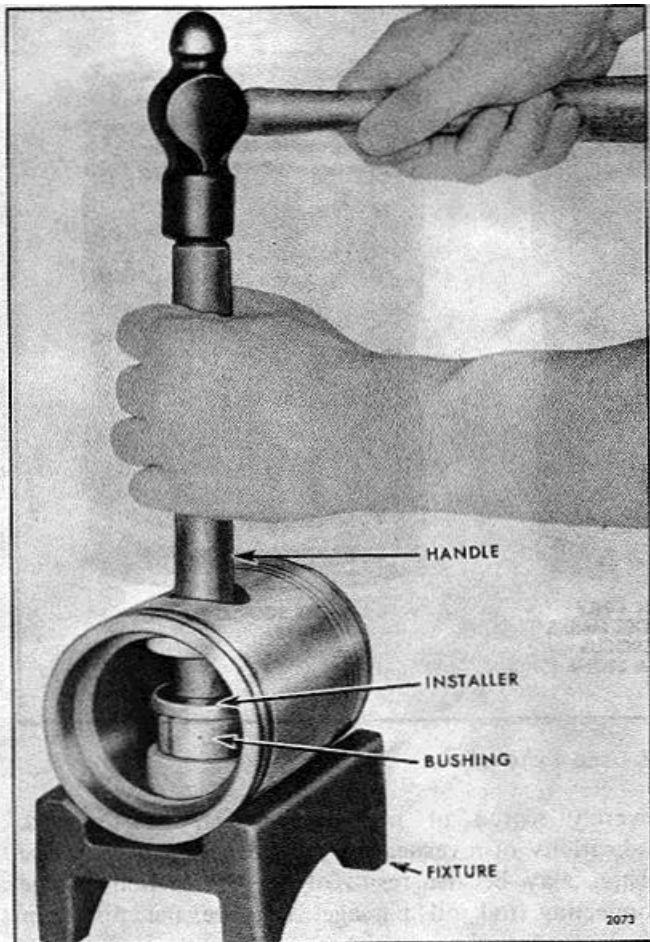

FIG. 5 Removing or Installing Piston Pin Bushings in Piston
- 2 Drive each bushing from the piston with bushing remover J 1513-3 and handle J 1513-2 (Fig. 5).